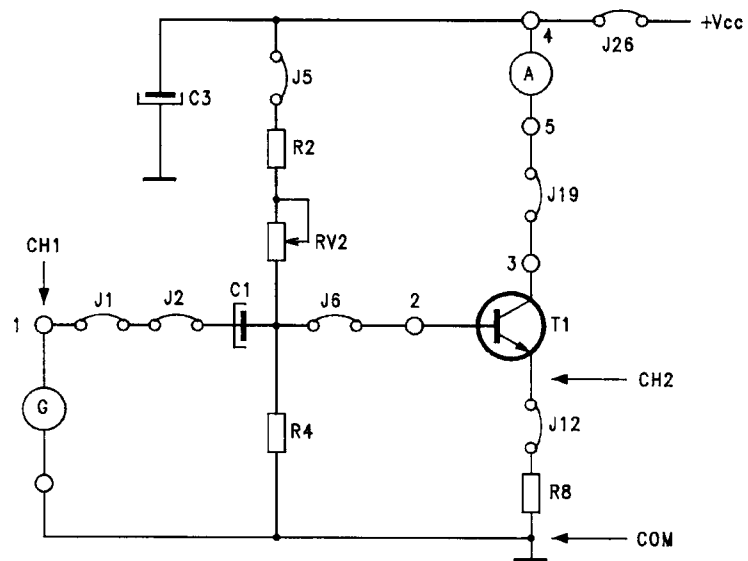

fig.B21.4
- Insert jumpers J1, J2, J6, J5, J12, J19, J26, the multimeter (function IDC) between terminals 4 and 5 to produce the circuit of figure B21.4